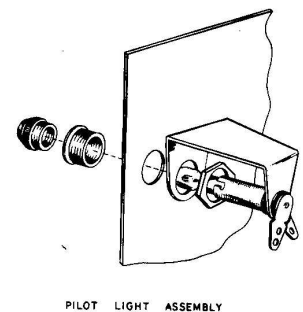

Figure 12
- ( ) Mount the pilot light socket at location CA as shown. Place the large bushing through the panel from the front. Slip the socket assembly over the bushing and secure with a large nut. See Figure 12.